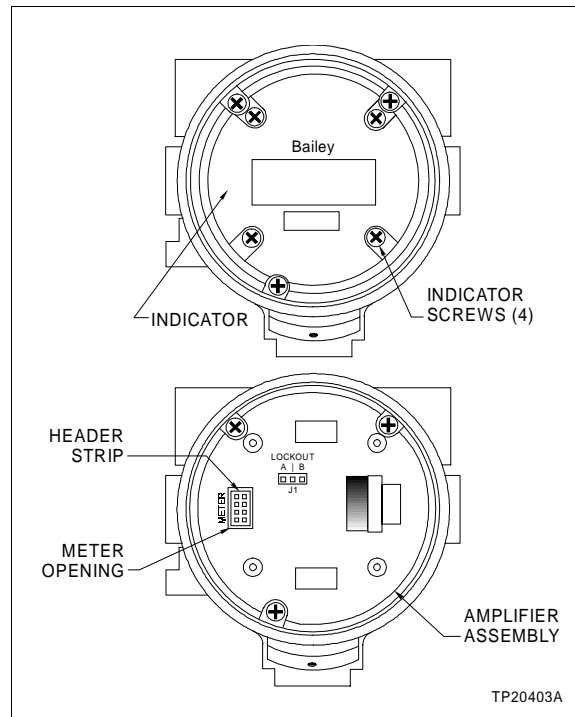

Figure I1-1. Orienting the Indicator
2. Remove the four indicator screws (Fig. I1-1).
NOTE: The main board connector in the amplifier assembly, which is accessible through the meter opening (Fig. I1-1), is female, as are the four connectors on the back of the LCD. Therefore, there is a male-to-male header strip between the two female connectors. Be sure the header strip stays in the main board connector in the amplifier assembly when the LCD is unplugged. If it comes out with the LCD, remove it from the LCD and replace it in the main board connector in the amplifier assembly before continuing with this procedure.
4. Align one of the connectors on the back of the LCD with the meter opening in the amplifier assembly to get the desired viewing orientation (Fig. I1-1).